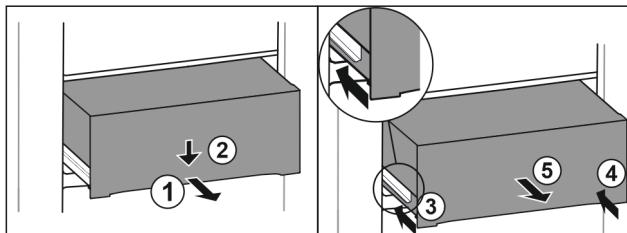

Fig. 104
- ▶ Pull out drawer half-way. Fig. 104 (1)
- ▶ Push the drawer down at the front. Fig. 104 (2)
- ▶ Push the left rail in by about 2 cm. Fig. 104 (3)
- ▶ Push the right rail in by about 2 cm. Fig. 104 (4)
- ▶ Remove drawer to the front. Fig. 104 (5)